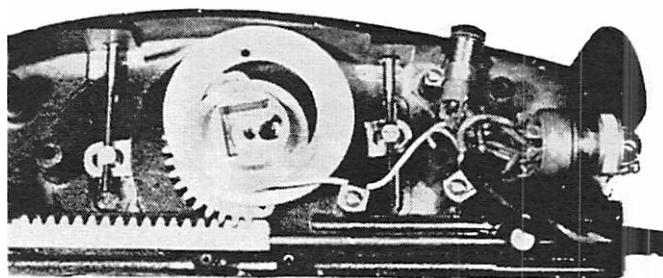

Figure 4. Sliding Retaining Ring Out of Way
4. Remove 2 screws from wire retaining ring and slide retaining ring out of the way. (Figure 4)
6. Install nylon cable rack on rack slide with first full tooth space aligned with first full tooth in gear sector while control handle is in full reverse position. (Figure 4)